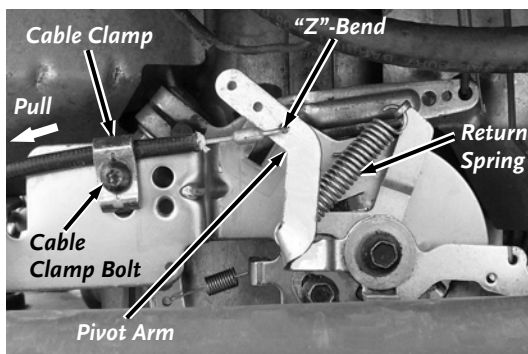

Figure 16
4. Insert the "Z"-Bend of the Cable end into the bottom hole in the Throttle Pivot Arm on the front of the Engine (**Figure 16**).